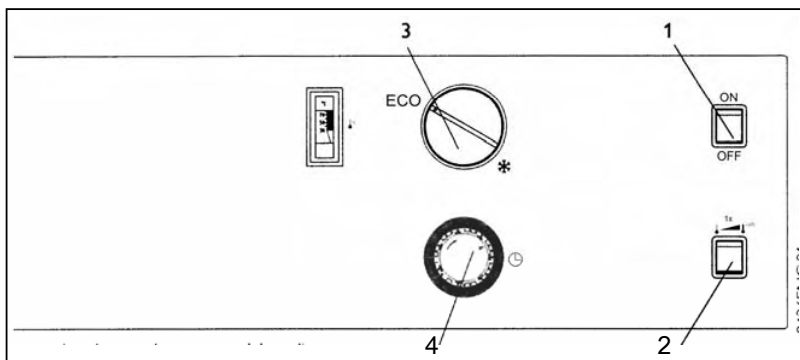

Fig. 1
The WWK 300 is to be hard wired to a dedicated circuit with a line fuse rating of 16 A. Before connecting the power to the unit, verify that switch 1 is set to OFF (0) (see Fig.1).